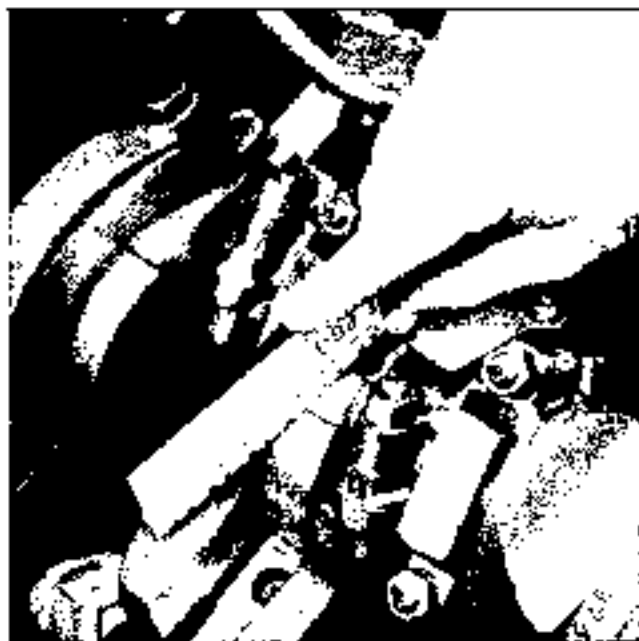

Fig. 6-110 Measuring Plastigage
3. Remove bearing cap and using Plastigage scale on envelope (Fig. 6-110), measure width of compressed Plastigage before removing it from the bearing or journal. If the bearing clearance is between .0002" and .0020", the clearance is satisfactory. If the clearance is more than .0020", replace the bearing with the next size undersize bearing and recheck clearance. Bearings are available in standard size, .001" and .002" undersize.
3. Remove bearing cap and using Plastigage scale on envelope (Fig. 6-110) measure width of compressed Plastigage before removing it from the